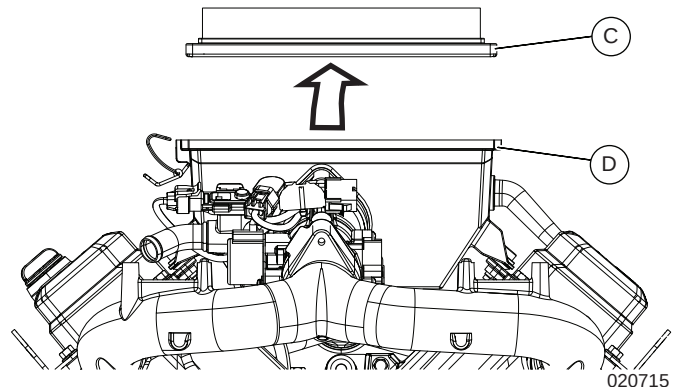

Figure 6-7. Remove Filter Media
3. See Figure 6-7. Lift filter media (C) vertically to remove from air box base (D).